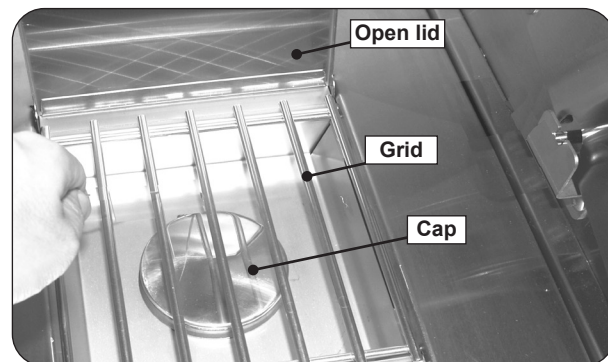

Fig. 24-3 Place burner cap and grid
5. Place the burner cap on top of the burner, as shown in Fig. 24-3.
6. Place the grid so that it rests on the front and back lips of the sideburner opening (Fig. 24-3).